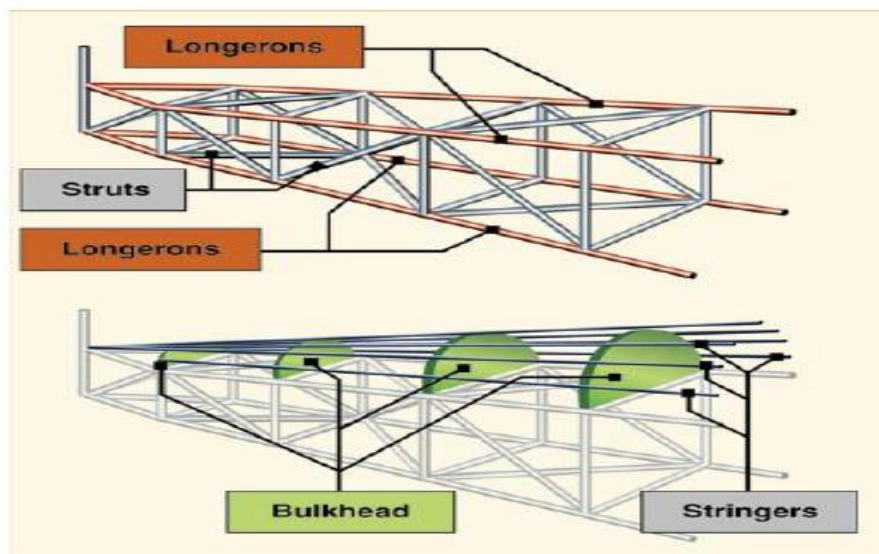

Figure 2-5. Truss-type fuselage structure.
- [Figure 2-5] The most popular types of fuselage structures used in today's aircraft are the monocoque (French for "single shell") and semimonocoque.